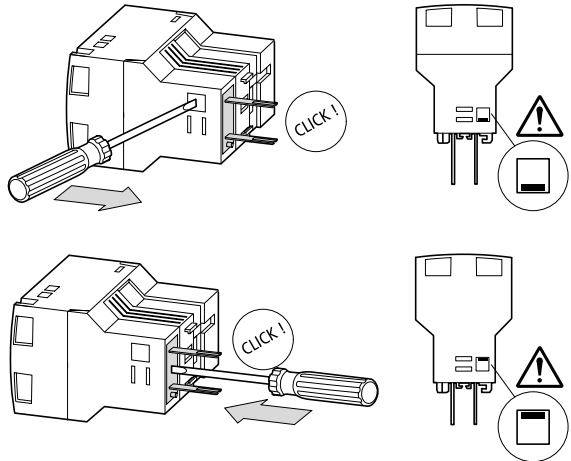

Figure 7: Assignment of SmartWire module for DILM and contactor
- ▶ Set the setting slider on the SmartWire module for the corresponding contactor (→ fig. 7).